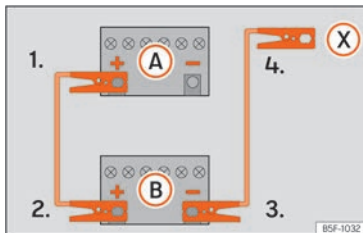

Fig. 49 Diagram of connections for vehicles without Start-Stop system.
2. Connect one end of the *red* jump lead to the positive (+) terminal of the vehicle with the flat battery (A) »» Fig. 49.
3. Connect the other end of the *red* jump lead to the positive terminal (+) in the vehicle providing assistance (B).
- 4a. *In vehicles without a Start-Stop system:* connect one end of the *black* jump lead to the negative terminal (-) of the vehicle providing the current (B) »» Fig. 49.